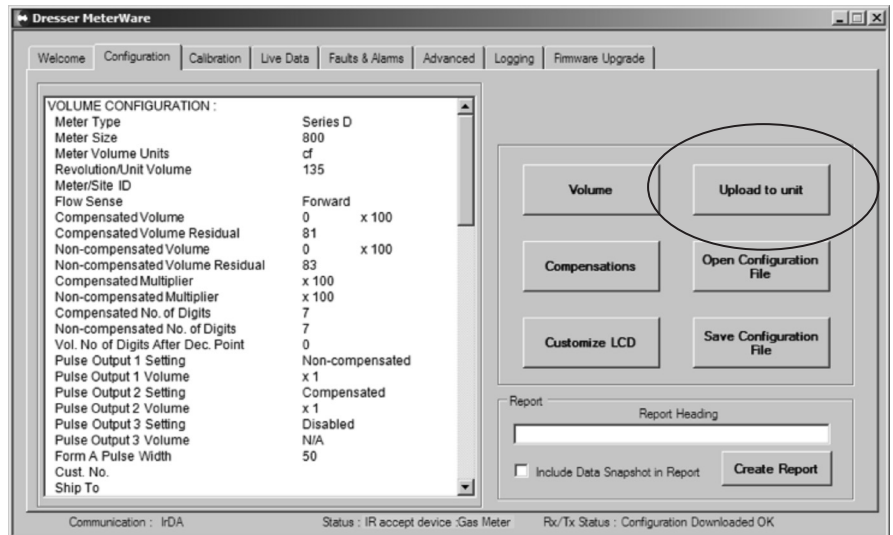

Figure 10.3 - Configuration screen in Dresser MeterWare
- Once back on the Configuration screen (Figure 10.3), select Upload to unit.